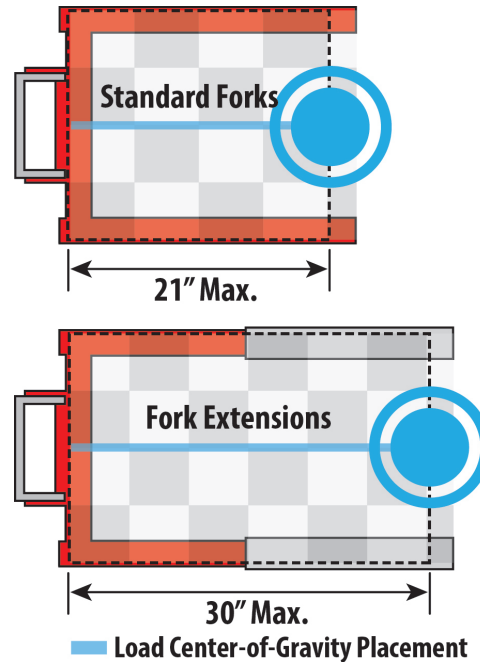

Figure 4-1: Center of Gravity Load Placement Zone
- Place the load center of gravity within the maximum placement range as shown in Figure 4-1.
Make sure the load center of gravity (COG) is centered between the lifting fork arms. The maximum distance for the load COG from the front of the carriage is 21-inches. For distances greater than 21-inches, you must use the JET fork extensions accessory. The maximum load COG distance using the JET fork extensions is 30-inches. See Figure 4-1.
- Center the load center of gravity between the lifting fork arms as shown in Figure 4-1.
- Place the load center of gravity as close to the carriage as possible and within the load placement zone as shown in Figure 4-1.
- Keep the load center of gravity within the maximum placement range as shown in Figure 4-1.